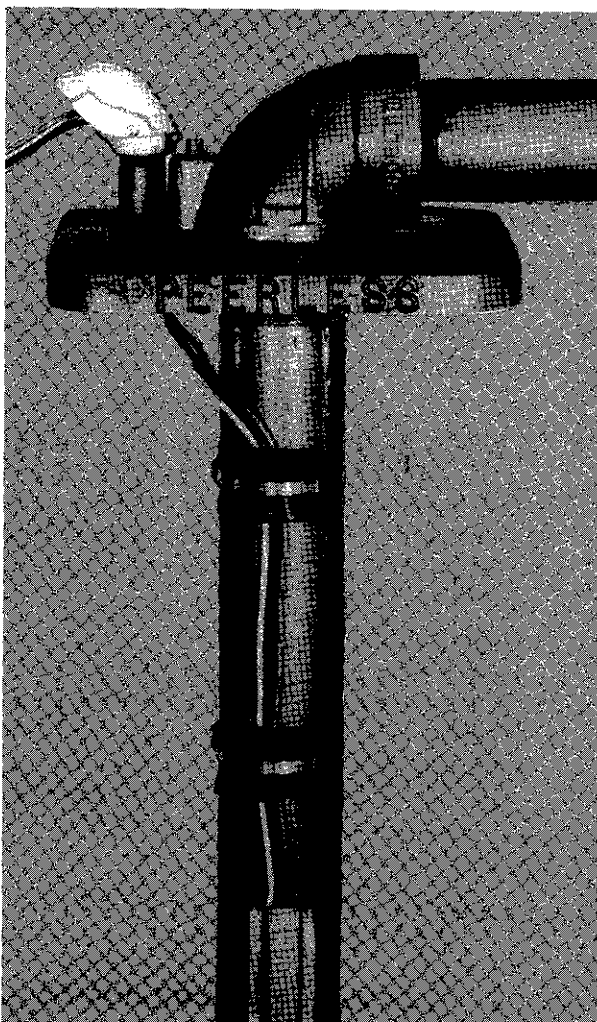

FIGURE 4
At least once for every twenty feet of drop pipe band the cable to the drop pipe. Apply the bands in accordance with the procedure described in Figure 3. See also Figure 4 for a pictorial description of the banding at the upper end of the drop pipe and the route of the cable through the cable entrance fitting (cable entrance fitting is optional). The following recommendations will help to assure a satisfactory cable installation:
- It is good practice to install a rubber "boot" under the band, as shown in Figure 4. This helps to keep the bands in place.
- 2.8.3** While the pump remains suspended, unroll enough electrical cable to reach the pumping plant panel. Cut the cable. Test the cable as described in paragraph 2.1. Pass the cable through the (optional) cable entrance fitting. Band the cable to the drop pipe as shown in Figure 4.